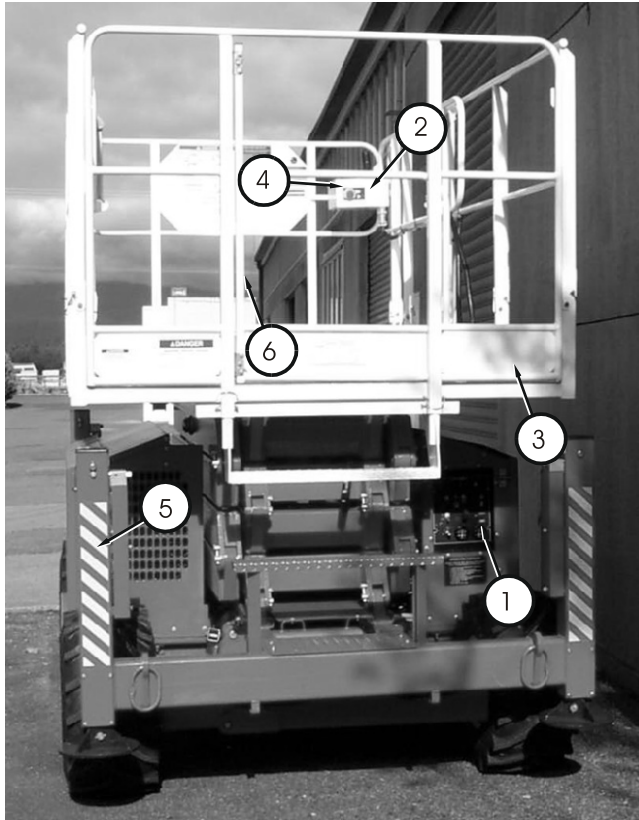

Figure 10.1 - Correct Stowed Position
1. Fully lower the platform **3** (see Figure 10.1).
Use the stabiliser controls **4** to completely raise all four of the stabilisers **5** (see Figure 10.1).
3. Close the platform entry gate **6** (see Figure 10.1) and close all the doors on the machine.